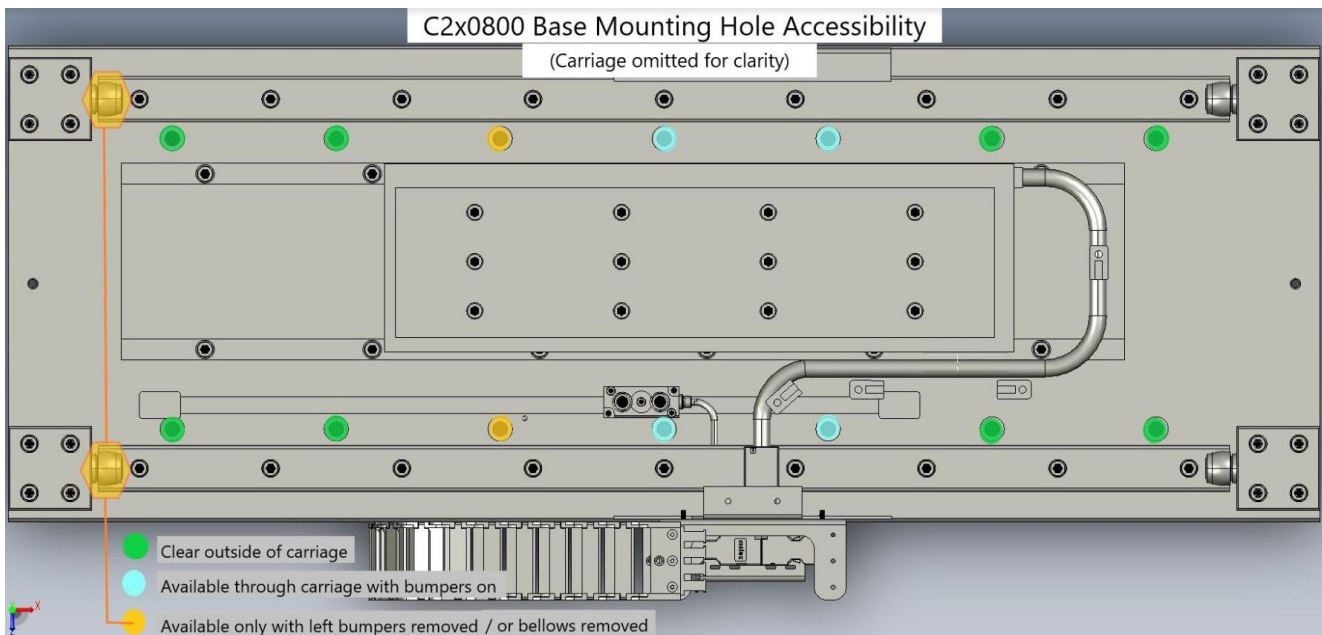
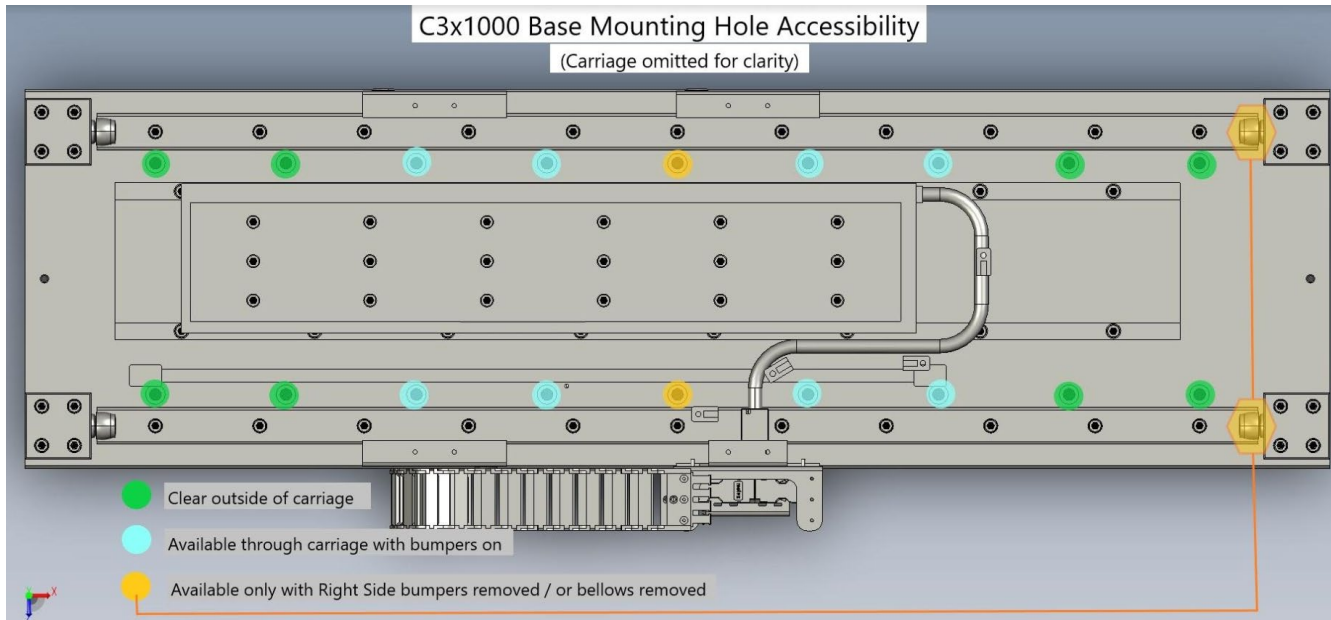

Figure 4. C2x800 Bolt Clearance Diagram
Figure 5. C3x1000 Bolt Clearance Diagram
**For the C2x0800 and the C3x1000 combinations, either end-stop bumpers (Torque to 2.2 Nm when replacing) or bellows will have to be removed to be able to access specific mounting holes locations (see bolt clearance diagrams) (See Figure 4 and Figure 5)